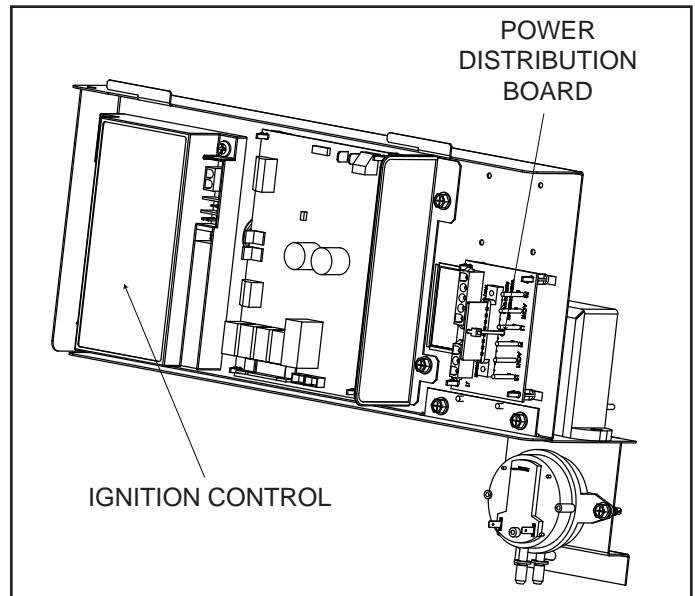

Figure 22. Location of Power Distribution Board
1. Identify the power distribution board on the heater. It is located to the right of the ignition control on the raceway. See Figure 22.